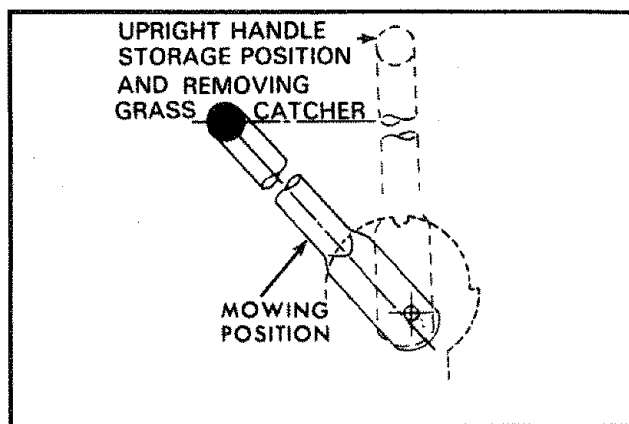
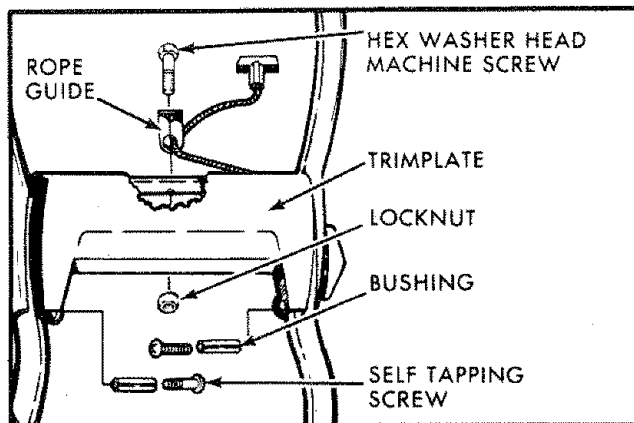

FIG. 2
FIG. 4
1. Raise handles until the lower handle is in upright position (See Fig. 2).
2. Raise the upper handle into position on the lower handle and tighten the two (2) handle knobs.
- a. Remove the (2) screws, (2) bushings, (1) bolt and locknut holding the trim plate and rope guide to lower handle. Keep for re-assembly (See Fig. 4).
- e. Turn handle over, position handle levers in place (See Fig. 4).
- i. Put trim plate and rope guide back on lower handle, removed in (a) above. Tighten the (2) screws, (2) bushings, (1) bolt, tighten (2) screws and (1) locknut (See Fig. 4).